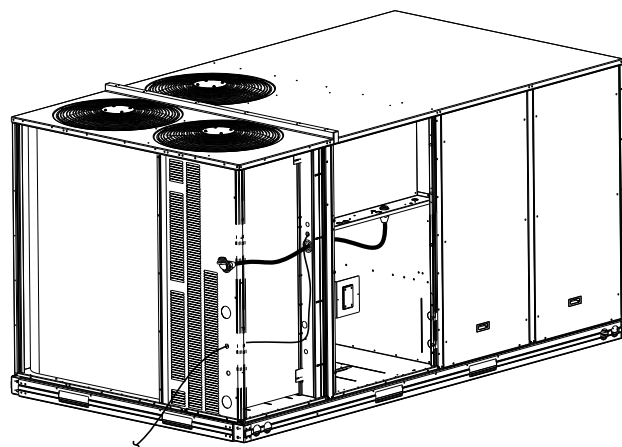

Fig. 39 — Thermostat Wire Routing
removing one of the two knockouts in the corner of the box. Using a connector at the control box to protect the wire as it passes into the control box. Pull the wires over to the terminal strip at the upper left corner of the Central Terminal Board (CTB). Use the connector at the control box and the wire tie to take up any slack in the thermostat wire to ensure that it will not be damaged by contact with the condenser coil. See Fig. 39.
1. Route the humidistat 2-conductor cable (field-supplied) through the bushing in the unit's louvered end panel (see Fig. 39).
4. Use the connector and the wire tie to reduce any slack in the humidistat cable to ensure that it will not be damaged by contact with the condenser coil (see Fig. 39).
1. Route the Thermidistat multi-conductor thermostat cable (field-supplied) through the bushing in the unit's louvered end panel (see Fig. 39).
4. Use the connector and the wire tie to reduce any slack in the thermostat cable to ensure that it will not be damaged by contact with the condenser coil (see Fig. 39).